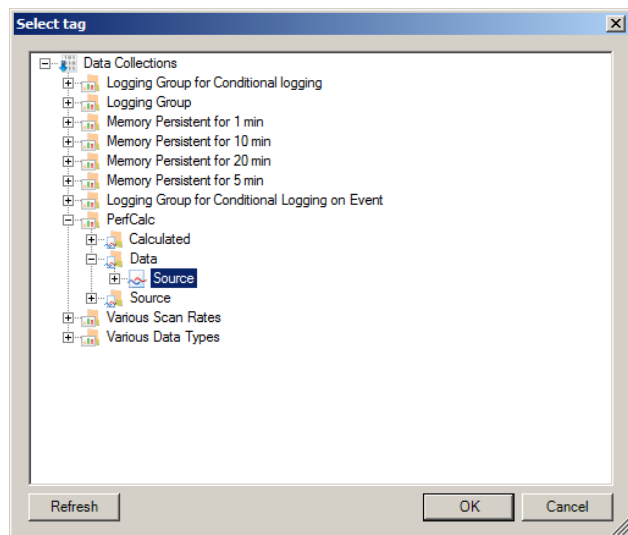

Figure 2 Tag Browser
3. Click on the button behind the Data Point field to open the tag browser as shown in Figure 2.